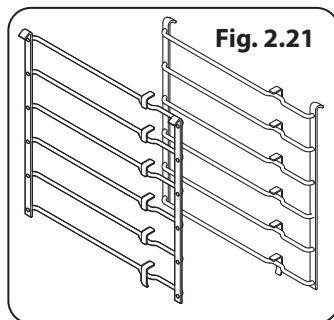

Fig. 2.21
- 1 set of side supports (**Fig. 2.21**)